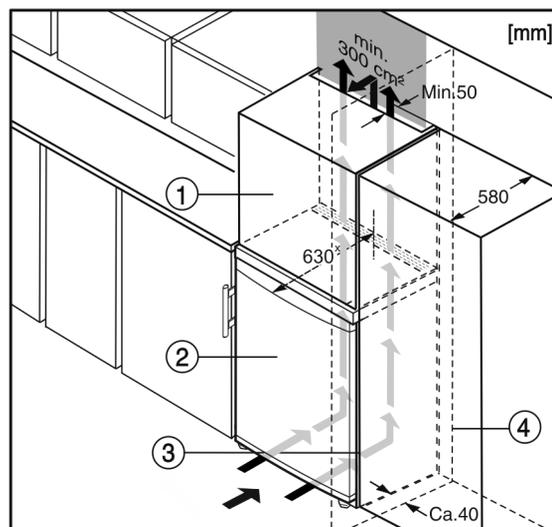

Fig. 6
The appliance can be inserted into a row of kitchen units. To match the appliance Fig. 6 (2) to the height of the row of units, a suitable stack cabinet Fig. 6 (1) can be fitted above the appliance.\*
When installing with kitchen units (max. depth 580 mm), the appliance can be positioned directly next to the kitchen cabinet Fig. 6 (3). The appliance will project by 34 mm\* at the sides and 50 mm\* in the centre of the appliance in relation to the kitchen cabinet front.\*
If the appliance is installed with the hinges next to a wall Fig. 6 (4), the distance between appliance and wall has to be at least 40 mm. This corresponds to the projection of the handle when the door is open.